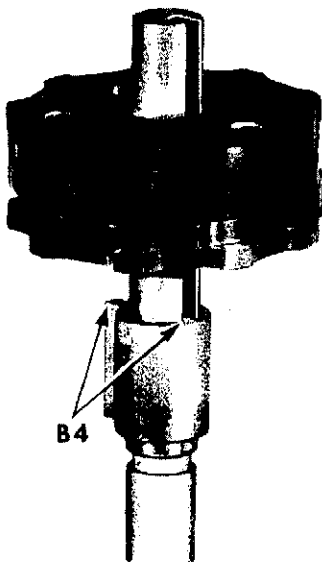

Fig. 255A
1. With locating tool No. T4345 set in an upright position, mount stack of discs onto locating tool with keys **B4** facing up, as shown in Fig. 255A.